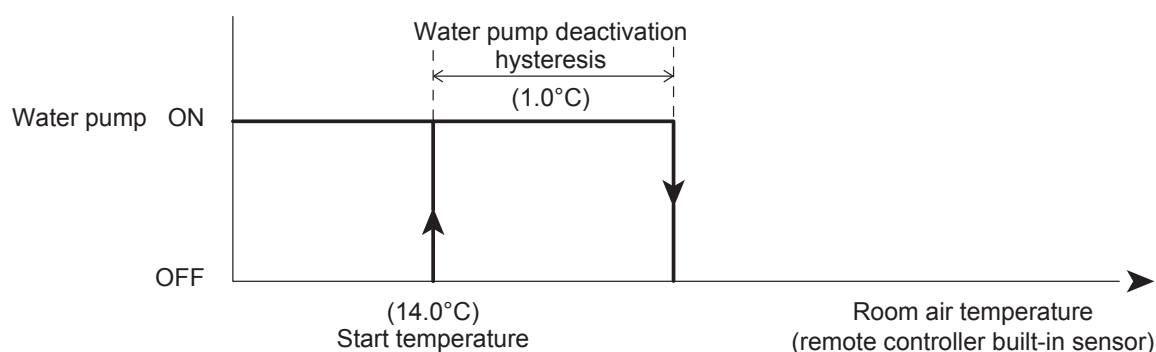

Figure 8-20: Frost protection (room air temperature) - water pump
- Room air temperature - refer to Section 8.4.3 and Figure 8-20.